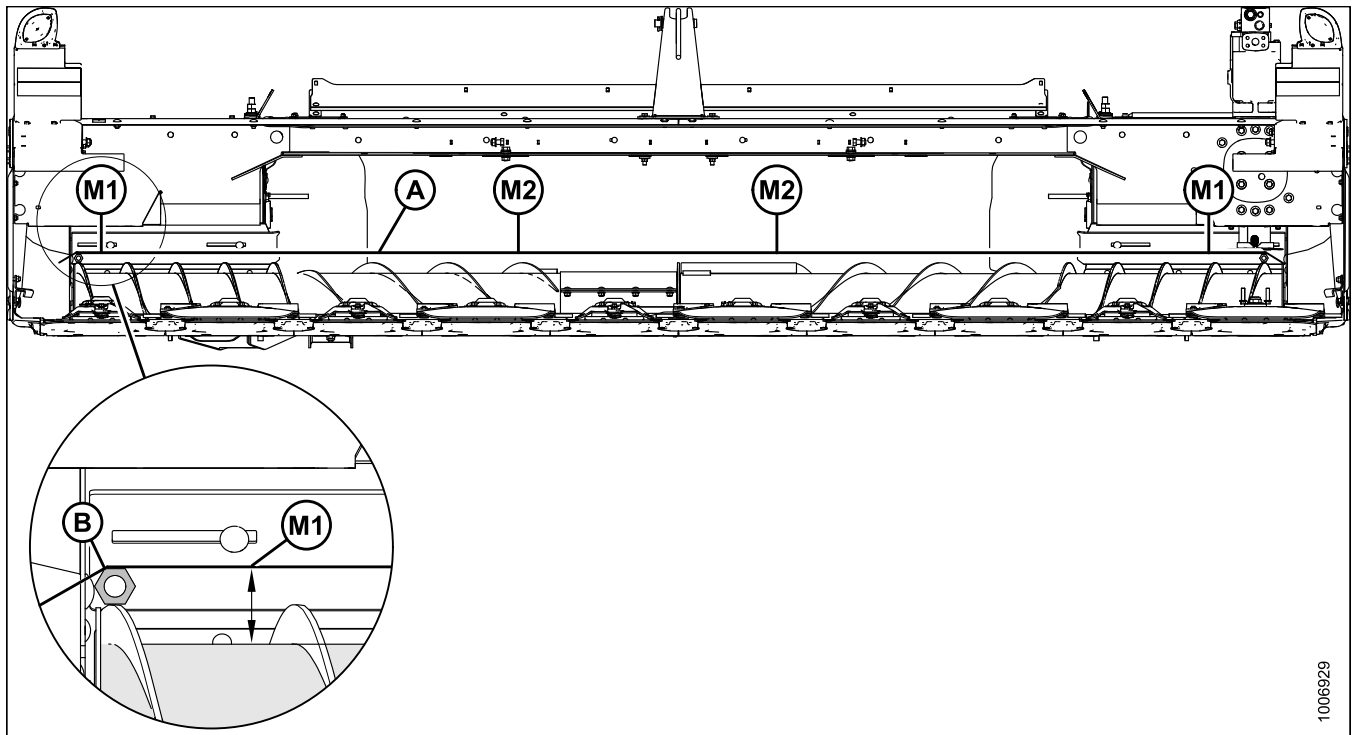

Figure 3.16: Vertical Alignment String Routing and Measurement Points
3. Measure from the auger tube to the string at two locations (M1 and M2) shown in Figure 3.16: *Vertical Alignment String Routing and Measurement Points, page 13*. The difference between the two measurements should be less than 3/16 in. (5 mm).